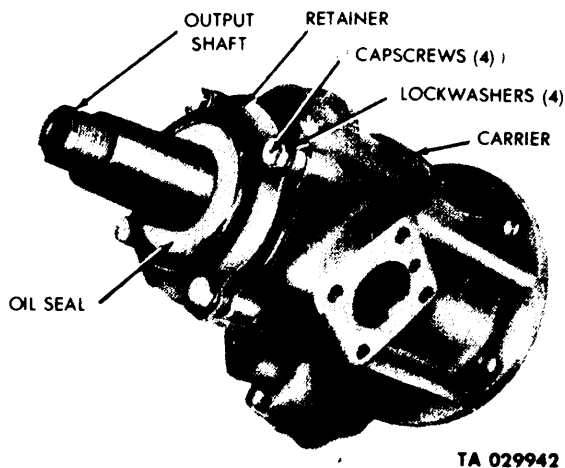

Figure 5-32. Removal of Output Shaft Rear Bearing Retainer and Oil Seal.
(1) Remove the four capscrews and lockwashers securing the retainer to the carrier. (See fig. 5-32.)
(2) Place the retainer in a vise, and drive the oil seal from the retainer using a suitable punch and hammer. See figure 5-32 for location and positioning of the oil seal.
- d. Output shaft rear bearing cup, retainer, and oil seal. (See fig. 5-32.)